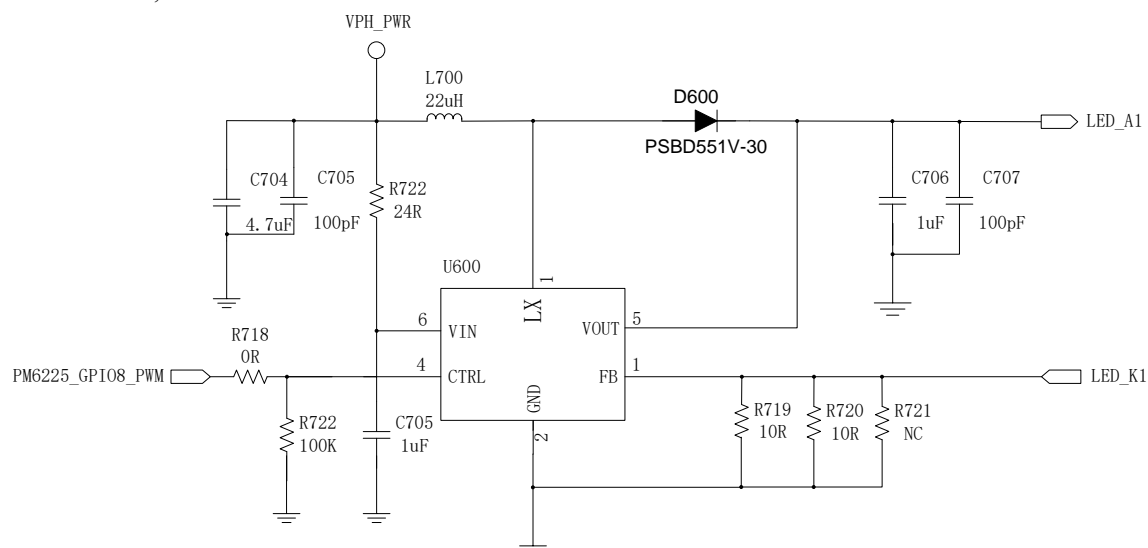

FIG. 4.15: External backlight circuit diagram
SNM927 does not support backlight driver output, customers need to use an external backlight driver. The backlight driver circuit can be referred to Figure 4.15. The brightness of backlight can be adjusted through PWM/PM6225_GPIO8 (44) of the module, and the modulation mode is PWM mode.